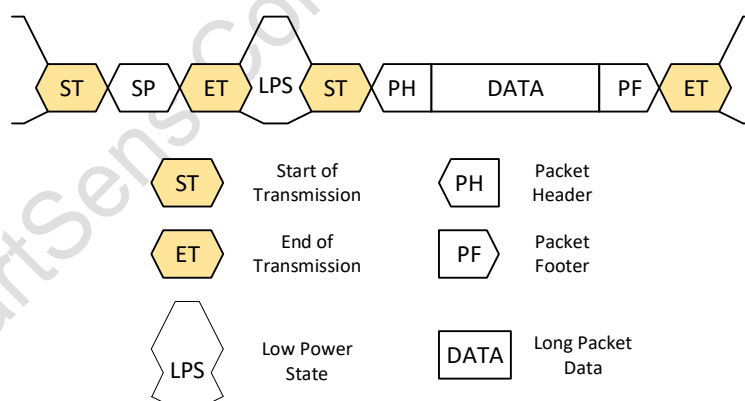
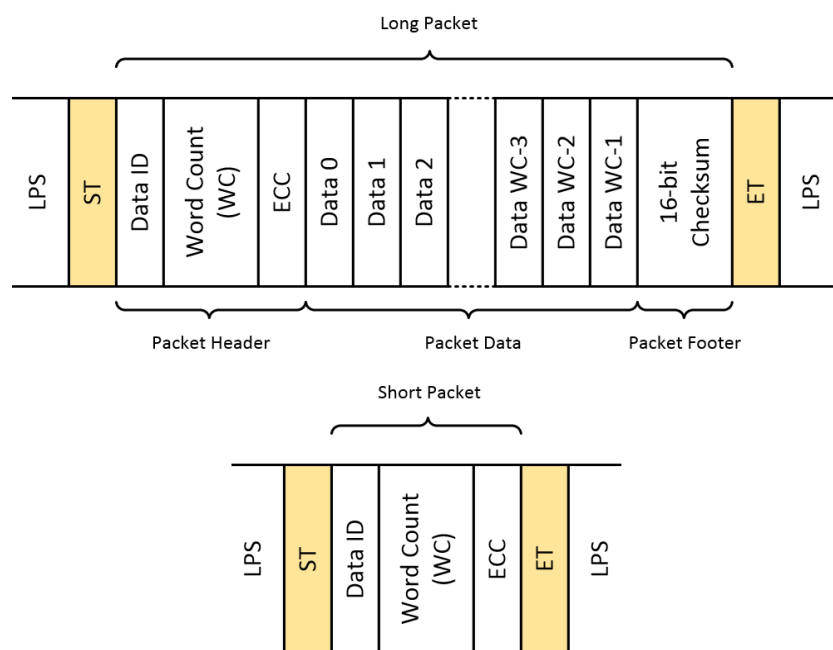
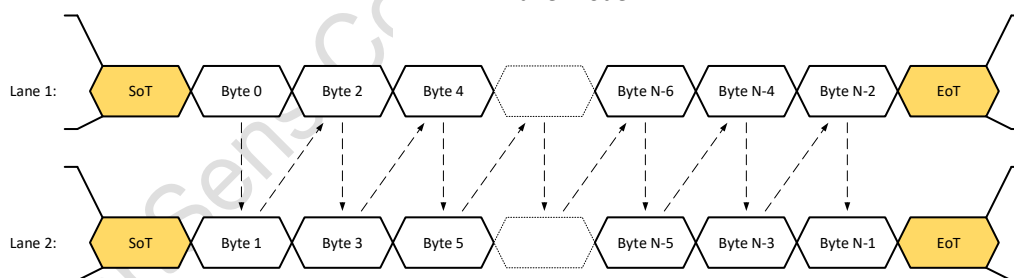
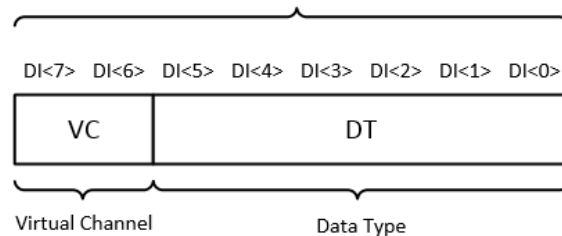

Figure 1-10 MIPI data packet
Figure 1-11 MIPI long/short packet structure diagram
Figure 1-12 MIPI 1/2-lane data package transmission diagram
Figure 1-13 MIPI data packet DI structure
Figure 1-10 is a brief diagram of an MIPI low level data packet, showing the transmission process of a short packet and a long packet. Figure 1-11 shows MIPI data packet structure diagrams for long and short packets. The Data Identifier (DI) is used to distinguish different packet types. Figure 1-12 shows the data packet transmission diagram of MIPI working in 1/2-lane. In Figure 1-13, DI consists of two parts, Virtual Channel (VC) and Data Type (DT). By default, the VC value of MIPI data given by this chip is 0, and the DT values are shown in Table 1-8.